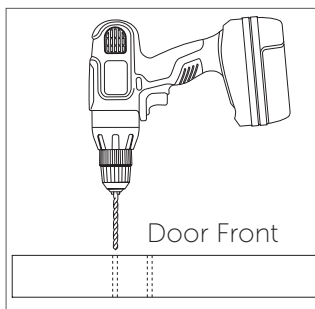

Figure 5
6. Drill two pilot holes all the way through the door for each hanger using a drill with an 1/8" drill bit (Figure 5).
8. Install remaining spacers with lag screws and washers using a 9/16" socket wrench (Figure 5). Tighten all lag screws.